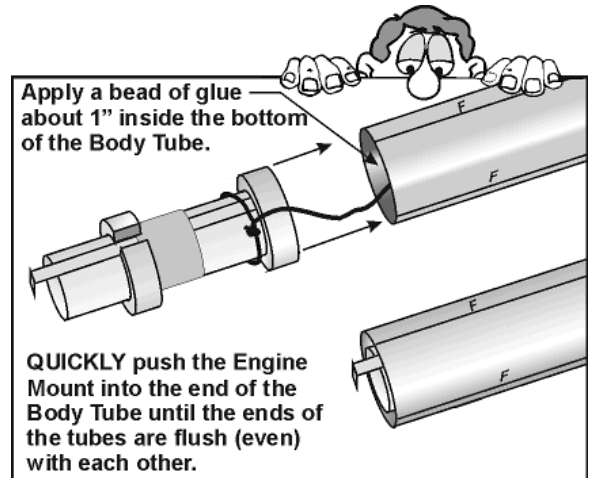

Figure 22
22. Referring to **Figure 22** apply a bead of glue about 1" inside the bottom of the body tube. **NOTE:** If you get some glue on the Kevlar® Cord, don't worry, that is fine. Once the glue is in place, **QUICKLY** push the Engine Mount all the way into the Body Tube until the two tubes are flush (even) with each other, as shown. **ADULTS** may wish to help with this step.